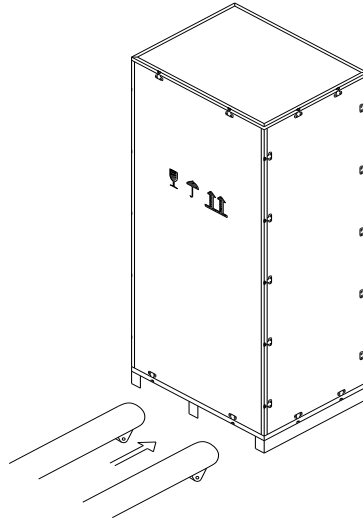

Fig.3-2 Transport to the designated site
Ensure the following space margin: at least 0.8m before the front of the 6-slot or the 10-slot cabinet, at least 1 m for the 20-slot cabinet, so as to easily maintain the power module with the front door fully open; at least 0.5m at behind of 6-slot or the 10-slot cabinet, at least 0.6 m for 20-slot cabinet for ventilation and cooling. The space reserved for the cabinet is shown in Fig.3-2.
2. Transport the equipment to the designated site by forklift, as shown in Fig.3-2.